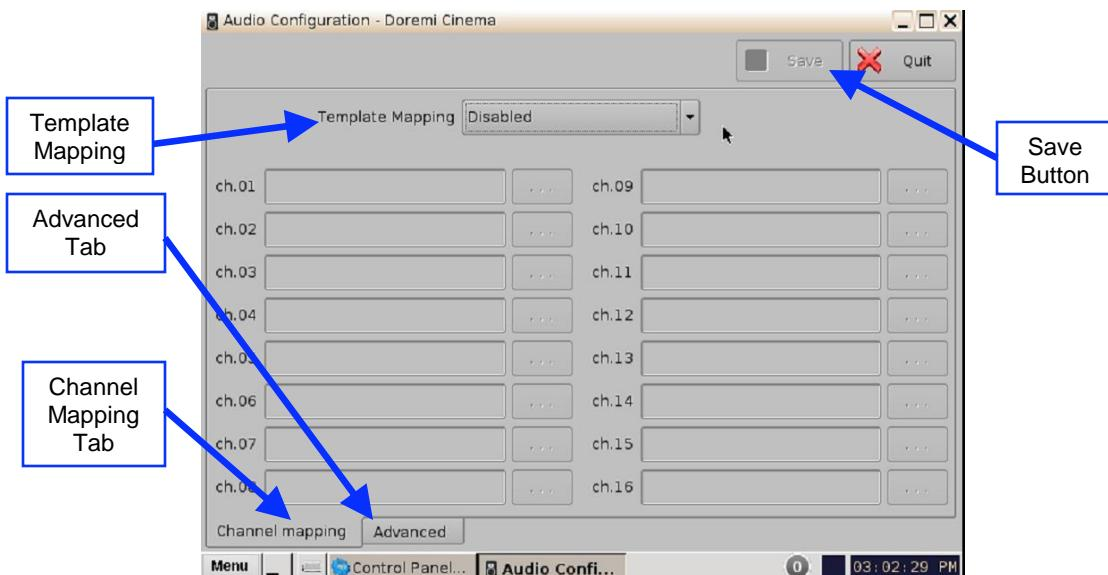

Figure 41: Audio Configuration - Default Setting
- The Audio Configuration window will appear (Figure 41).